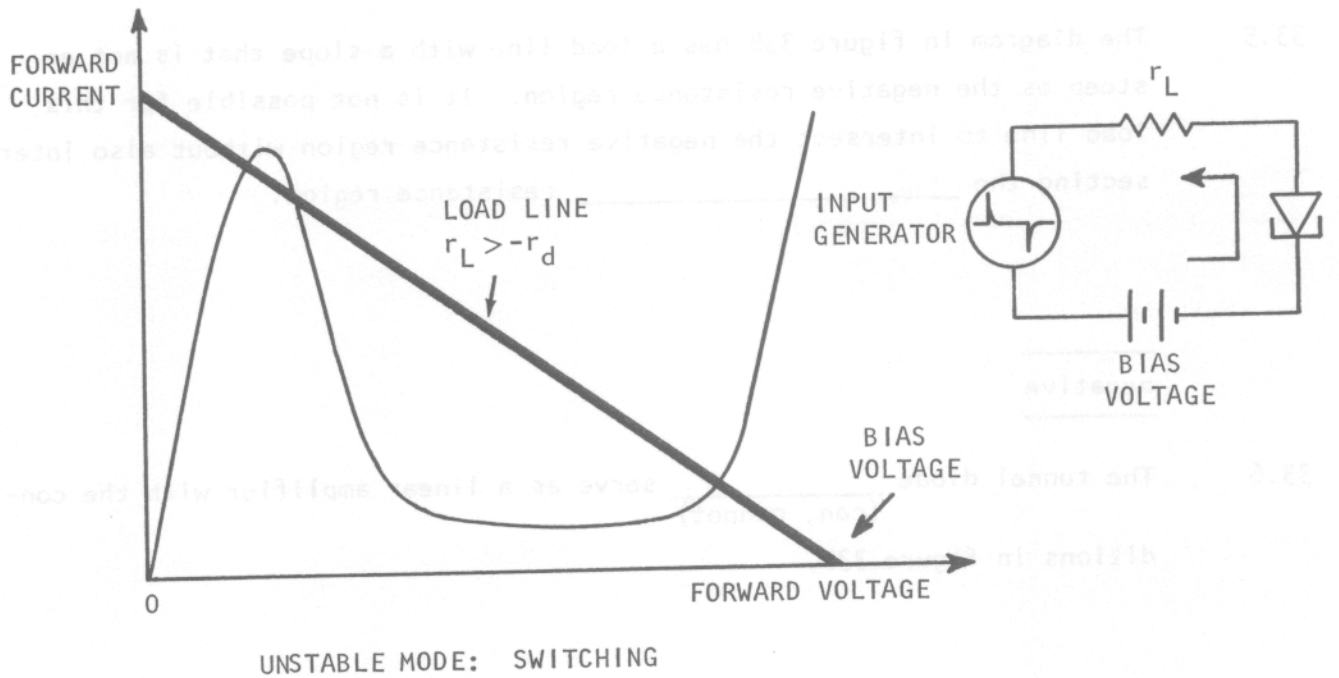

FIGURE 33B
33.8 With the conditions in the diagram in figure 33B, the diode can rest on the first or second _____ slope, but not in the _____ resistance region.
33.9 If forced beyond the first positive slope, the diode will switch rapidly to the second _____ slope with the load line in figure 33B.